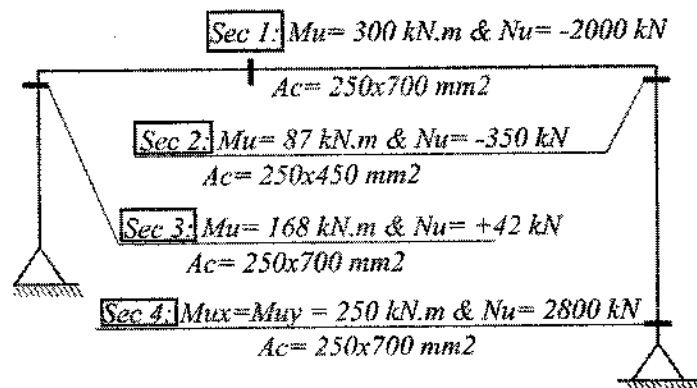

Fig. 3
d) The given straining actions are for RC frame shown in Fig. 3, if you know that $f_{cu} = 35 \text{ N/mm}^2$, $f_y = 350 \text{ N/mm}^2$ provide a complete design for the marked sections.